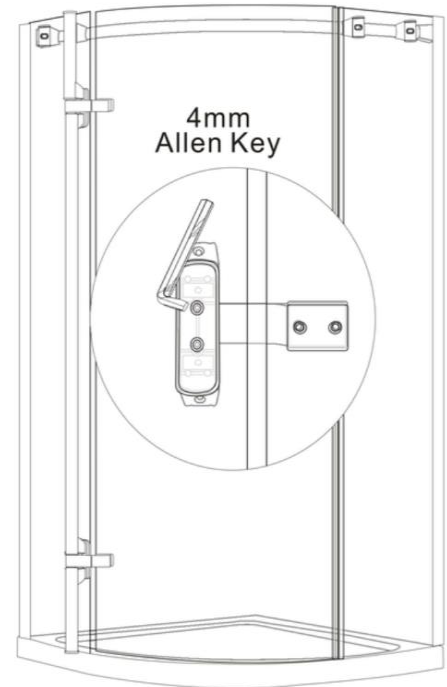

Figure 13
- * Before tighten the screws M6x20, please check the door glass is level, if not, please adjust the hinge post before tighten the screws, see figure 13